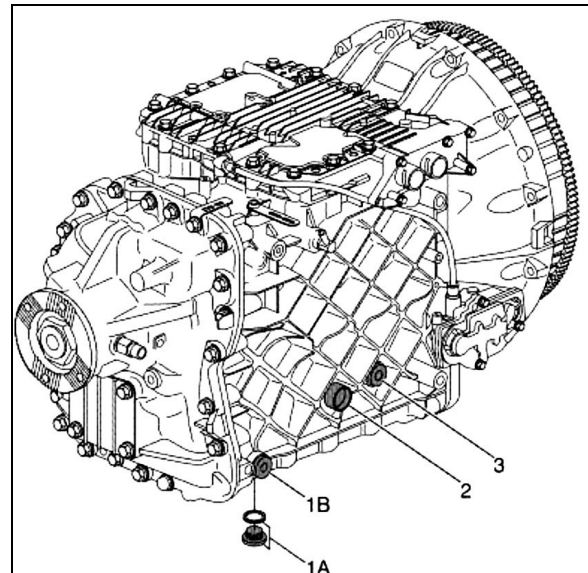

FIGURE 8: I-SHIFT TRANSMISSION OIL CHANGE
- Check oil level using transmission sight glass (2, Fig. 8) ;
- Add oil through the oil filling point if necessary (3, Fig. 8) ;
Remove the drain plug from under the transmission (1A or 1B, Fig. 8) and allow the oil to drain into a suitable container.